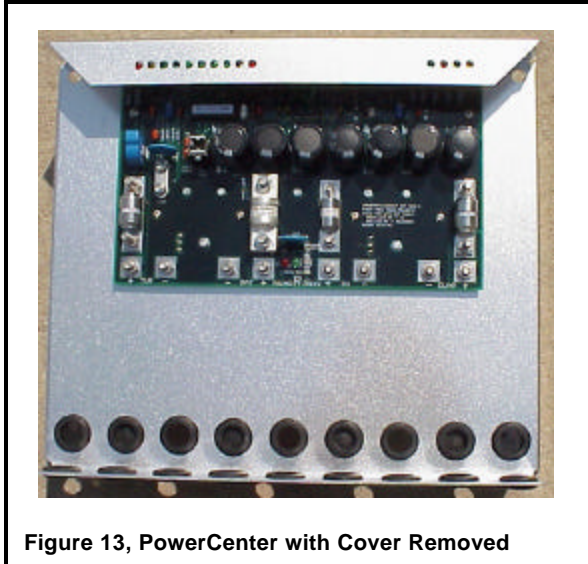

Figure 13, PowerCenter with Cover Removed
**Cable Entrances:** As shown in Figure 13, wiring can be connected to the PowerCenter from below or behind or in a combination of both. A total of eighteen 7/8" (20 mm) entrance holes are provided.
**Box Lugs:** The PowerCenter is supplied with box lugs (not shown in Figures 13 and 14) that are used to connect electrical leads to the terminals on the PowerCenter circuit board. These lugs can accommodate wire sizes from 35 mm2 to 10 mm2 (8 AWG to 2 AWG). **DO NOT use these lugs for the wiring connections to the wind turbine at the top of the tower.**